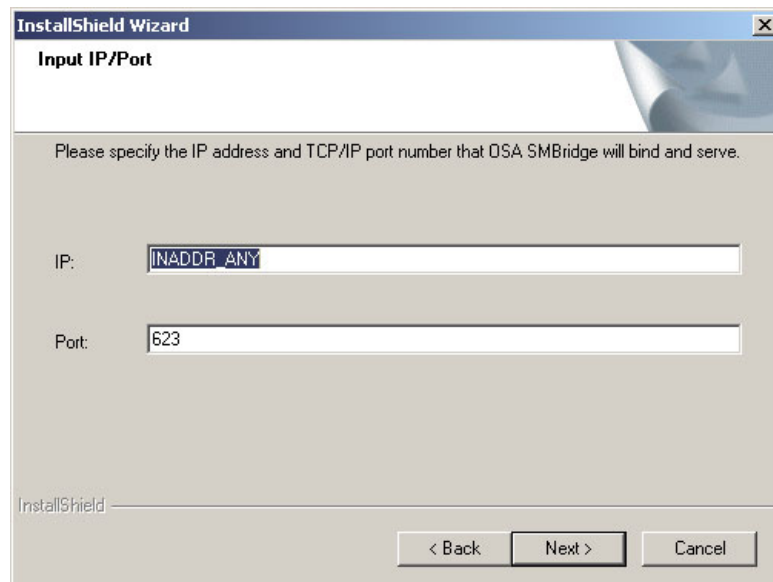

Figure 5-23 IP address and port number window
2. You will now be prompted to enter an IP address and TCP/IP port number, as shown in Figure 5-23.